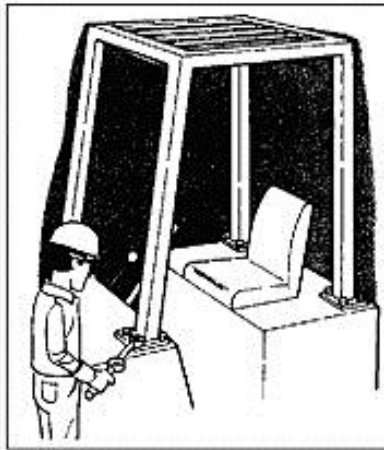

Figure. 1-24
- If the machine is equipped with an air-conditioner, then it is not allowed to make welding around the air conditioner, and all maintenance operation, including: replacing of cooling agent, should be done in a special workshop. (Figure. 1-24)